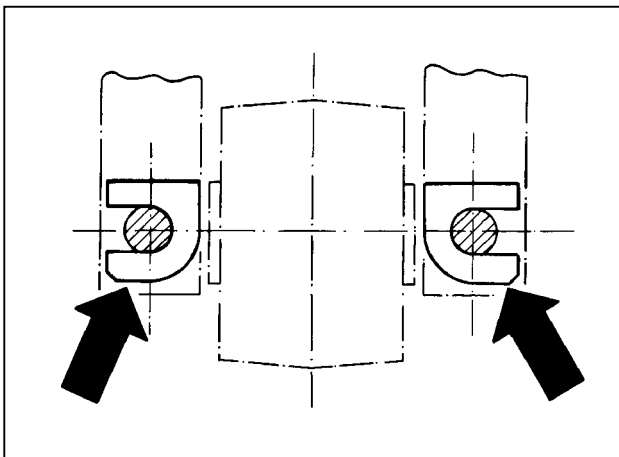

Figure 5: Correctly installed shims as per Van Hool Maintenance Manual
- 3) Tap out the affected bolt using a drift. Recover the suspension adjusting shim(s) - see Figure 5.
Make sure the shims are installed horizontally, and in an identical manner with the open end pointing as shown in Figure 5.